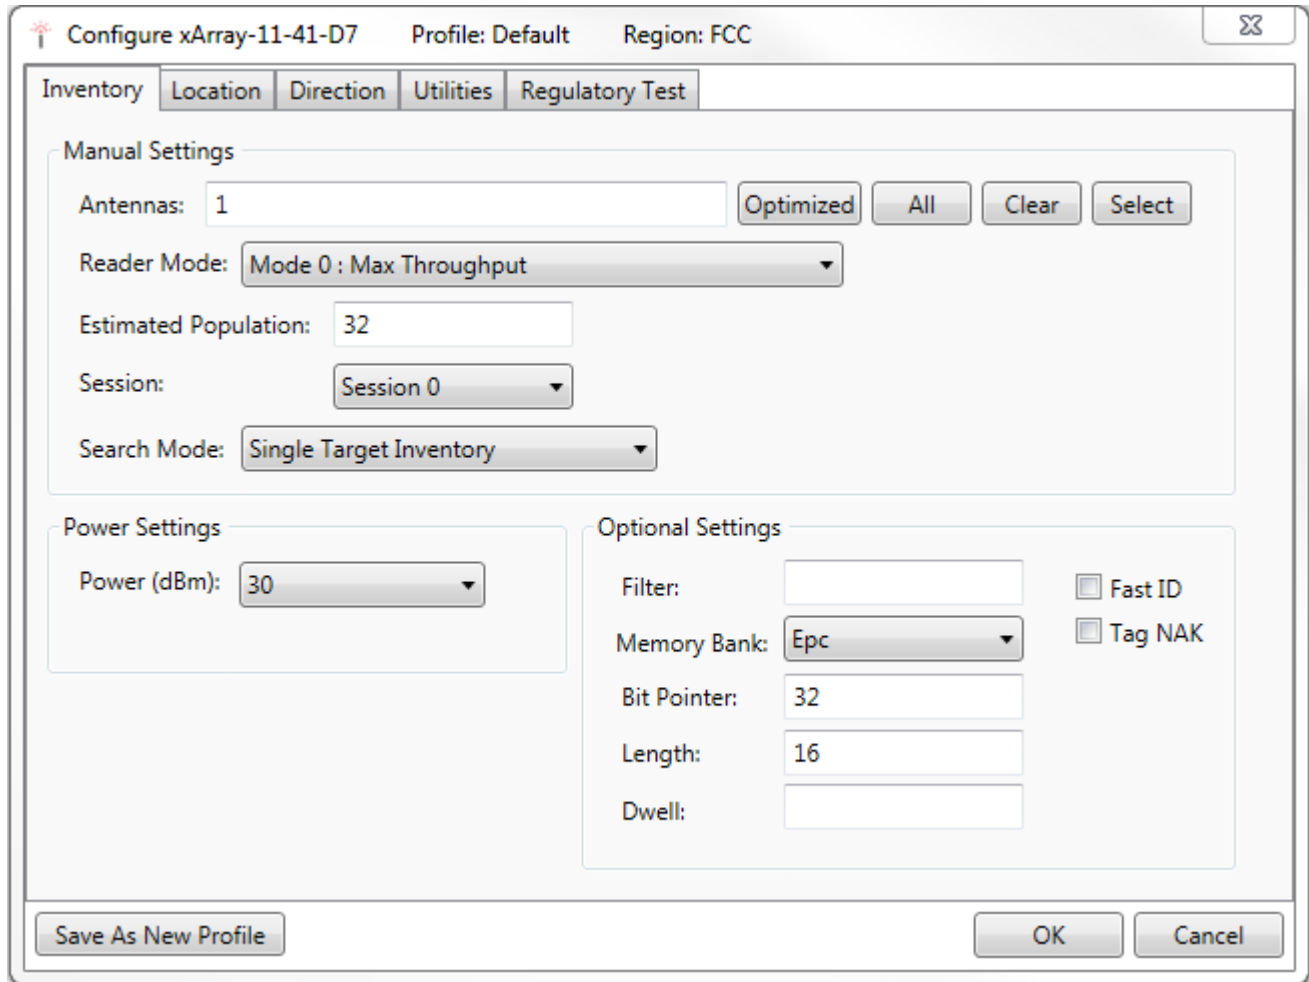

Figure 6.5 Configure Gateway for Inventory
2. Make sure that you open the **Inventory** tab (not **Location** or **Utilities**), as shown in figure 6.5.